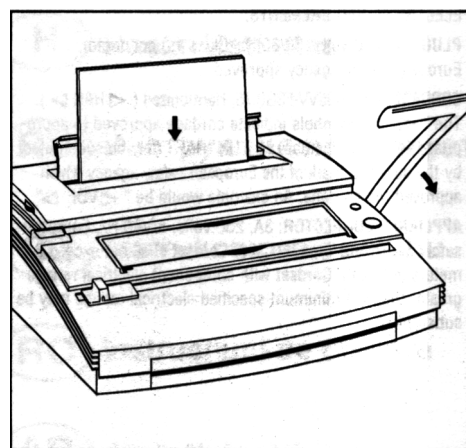

Figure 5
4. Hold the wire element firmly at each end of the book and remove it from the Wire Holder by sliding it to the left or lifting it off. While firmly holding the wire element at each end place the book with the open end of the wire face down into the Wire Crimper. You can release the book so it rests against the support rack or continue to hold it with one hand (figure 5).